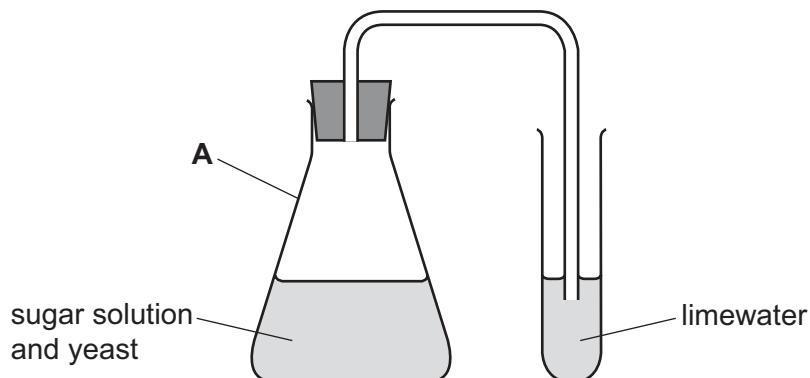

Fig. 1.1
**step 5** Place the mixture obtained in the apparatus shown in Fig. 1.1.
(a) Name the item of apparatus labelled **A** in Fig. 1.1.